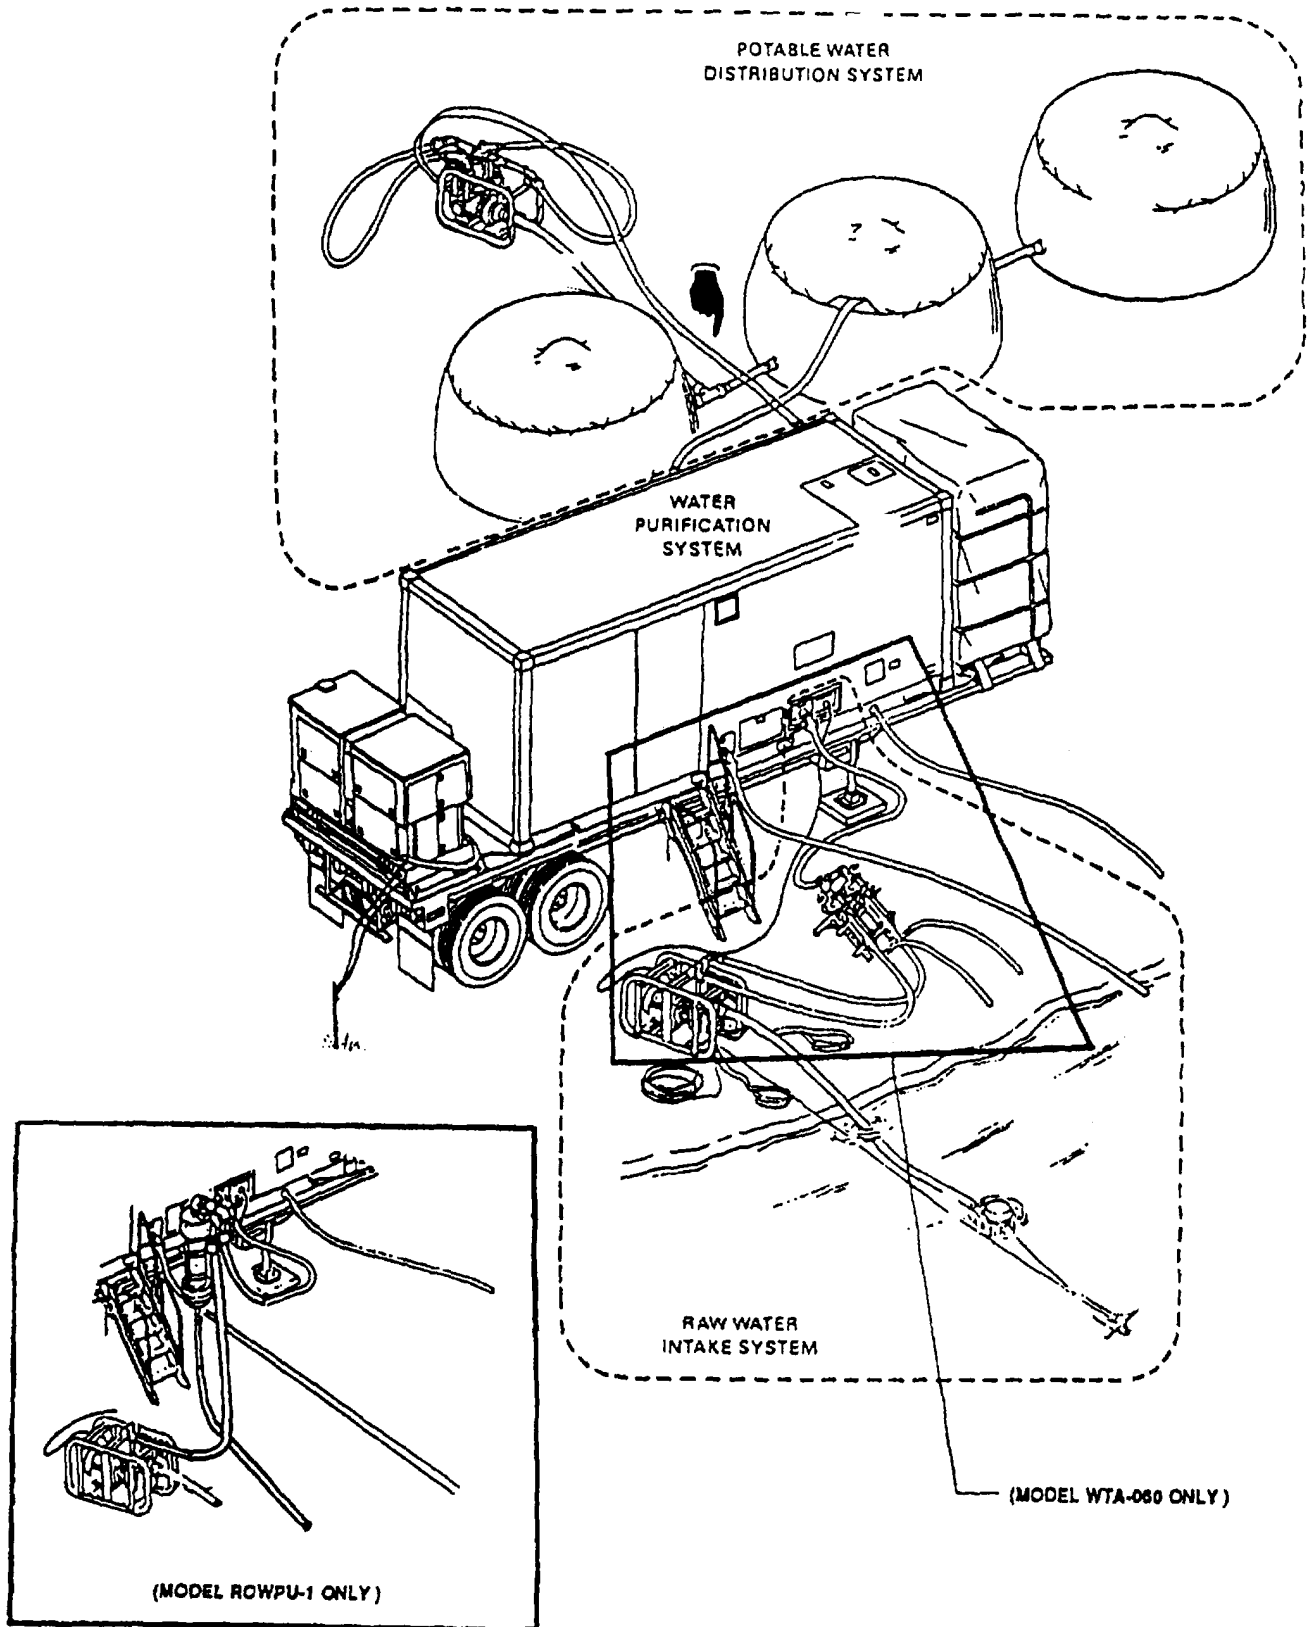

Figure 1-2. Major Systems of the ROWPU
- (1) The ROWPU can supply 60,000 gallons daily from fresh waters or brackish waters 75°F (24°C) and over. Less water is produced from colder water sources.
- (2) The ROWPU can supply 40,000 gallons daily from sea water 75°F (24°C) and over.
- (3) The ROWPU can supply 60,000 gallons daily from NBC contaminated fresh waters 75°F (24°C) and over.
- (4) The ROWPU produces potable water to long term consumption standards of purity.
- (5) It can handle raw water turbidity to 150 NTU.
- (6) On an NBC decontamination mission, raw water containing up to 10 ppm CW agent, or one million microorganism colonies per 100 ml, or 100,000 pC/l (picoCuries per liter) radioactivity can all be made potable.
- (7) Raw water can be taken from wells, lakes, seas, lagoons, rivers, or through an ice hole. The raw water pump can lift water about 15 feet (4.5 m) and discharge up to a height of 30 feet (9 m) at 110 gpm (416 lpm).
- (8) The winter kit allows the unit to be operated at a water point where air temperatures are between -25 and 32°F (-32 and 0°C) and water temperatures are above 32°F (0°C).
- (9) The ROWPU is set up and operated by a 3 person crew (one of whom is an NCO). Operation is semi-automatic.
**1-10. LOCATION AND DESCRIPTION OF MAJOR COMPONENTS.** The ROWPU is made up of three main systems as shown in Figure 1-2. The major components of each system are described in the following paragraphs.